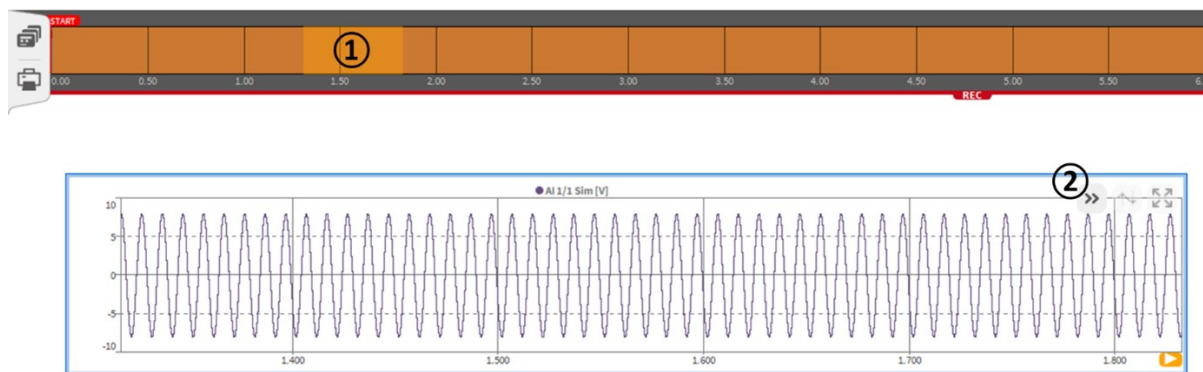

Fig. 8.28: Operational Features of DejaView™
While recording data, the user is free to use the Recorder to view data from the past, even during long duration recording. This feature is called DejaView™. For activating this function, the user must click with the left mouse button in the recorder or touch the recorder with his finger and drag or swipe to the right. From this point the user is also free to pinch or scroll zoom into the data. To quickly get back to looking at the current data the user can simply press the grey >> symbol (see ② in Fig. 8.28) and they will be snapped back into time with the current incoming data. This is one of the most **powerful** features of the OXYGEN software.
- Operational features of DejaView™ (see Fig. 8.28)
- ① Shows the part of the measurement file that is displayed in the recorder
- ② After pressing this button, the recorder will jump to the actual position of the measurement file and show the latest recorded data. A right click on this button makes the recorder show the recorded data from the recording start to the actual time position on the right end of the recorder